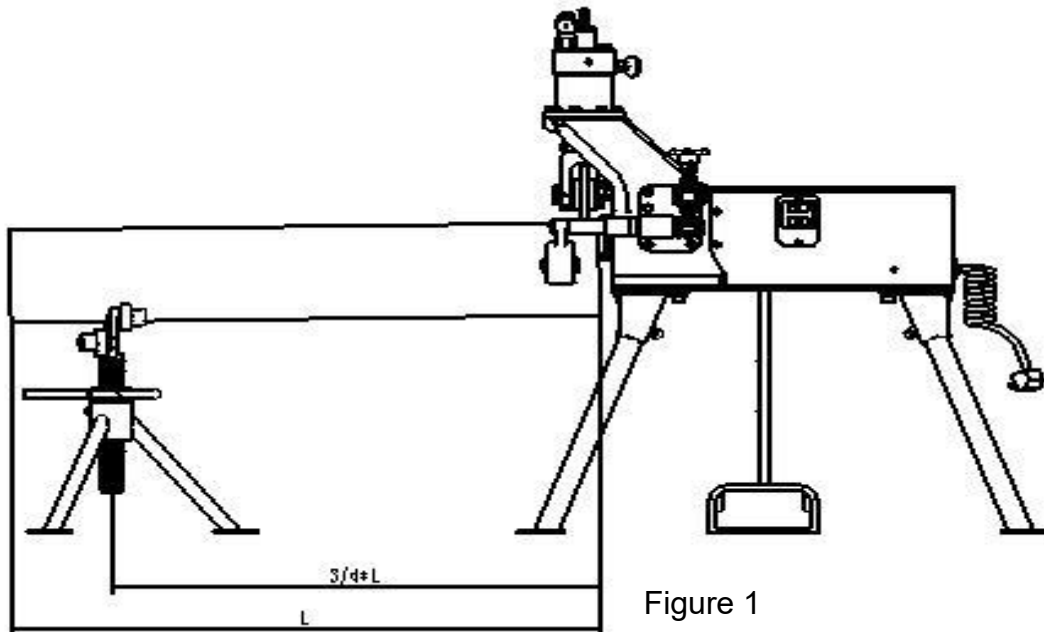

Figure 1
4. Make sure that the pipes to be grooved have appropriate support. When using one pipe stand, make sure the stand supports the pipe at the place where 3/4 of the total length from the grooved end. **Refer to Figure 1.**